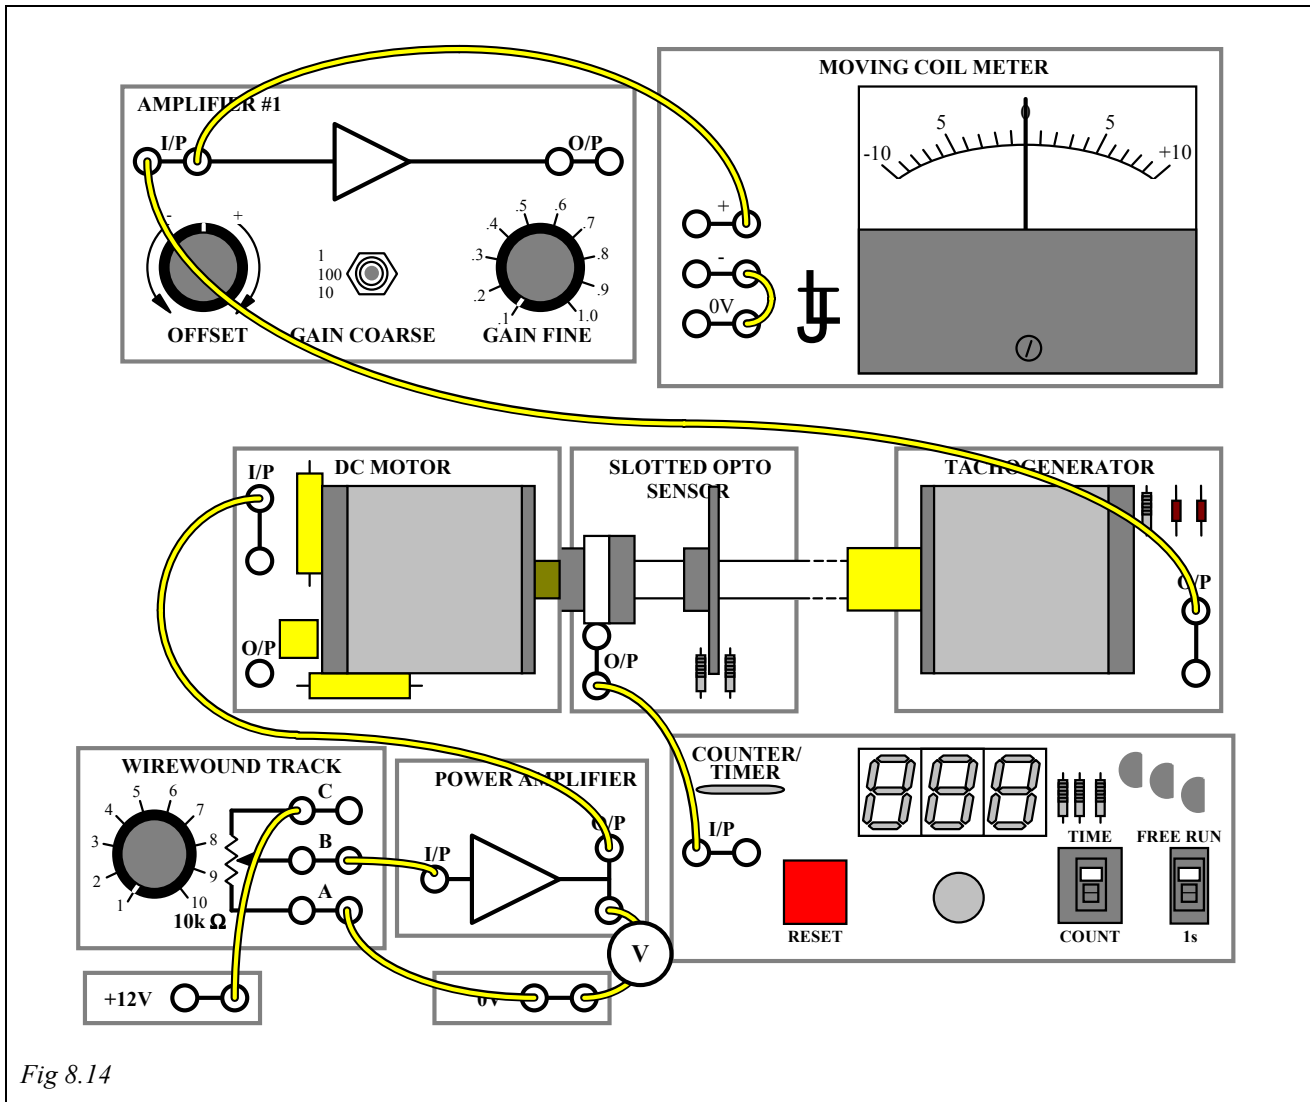

Fig 8.14
- Connect the circuit as shown in Fig 8.14.